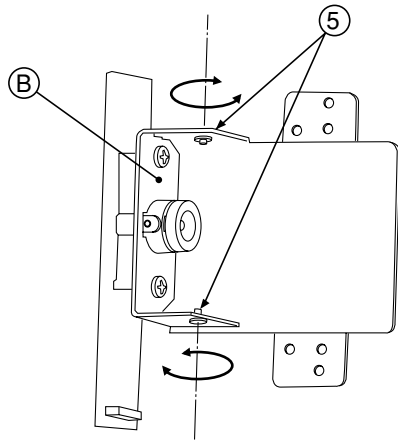
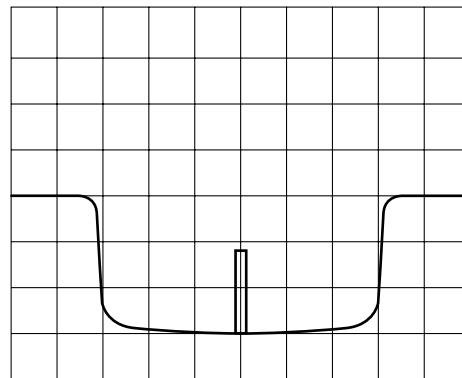

Fig.4
Fig.6
7) Right-and-left swing adjustment of CCD Unit (See Figures 4 and 5.)
As shown in Figure 5, insert a scale from the outer frame by 12 mm. Move plate B shown in Figure 4 from the state where the edge of a scale is not displayed on the oscilloscope and fix screws ⑤ in Figure 4 when the level fell into the intermediate position as shown in Figure 6.